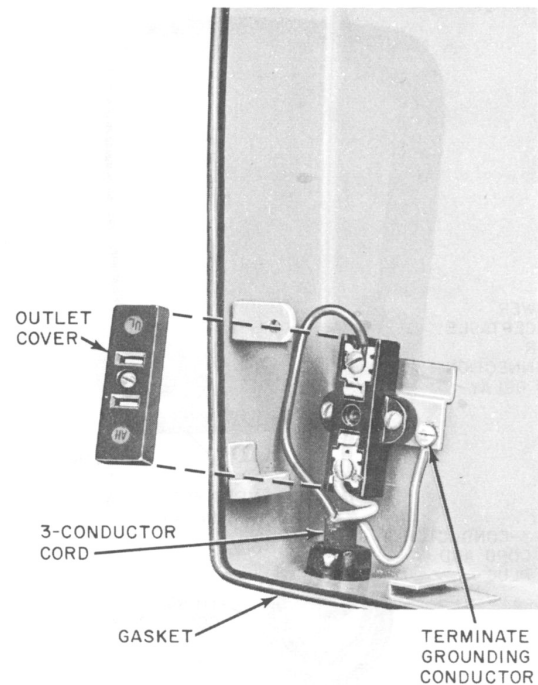

Fig. 4—Power Cord Termination
- Terminate 3-conductor cord as shown in Figure 4. ←
- Be sure that the gasket on the backbox is in place (Fig. 4).